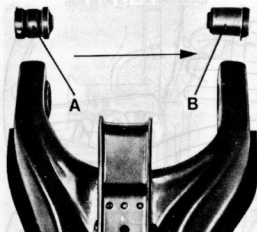

Fig. 11.10. Correct installation of upper suspension arm bushes (Sec. 9)
- 7 Renewal of the suspension arm bushes can be carried out using a press or a bolt and nut with suitable tubular distance pieces. When installing the new bushes note their correct location in relation to the front of the car (Fig. 11.10).